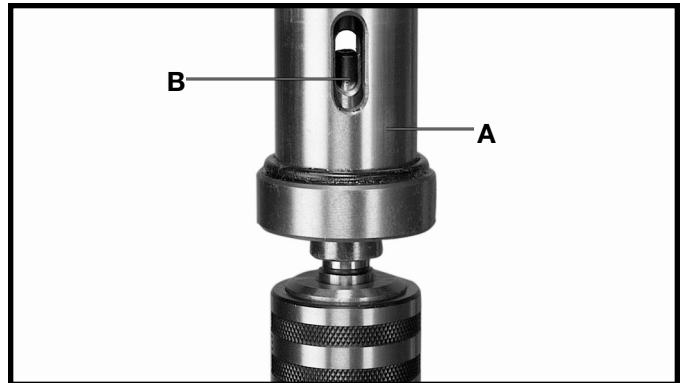

Fig. 34
1. Align the slot in the quill (A) Fig. 34, with the slot in the spindle (B).